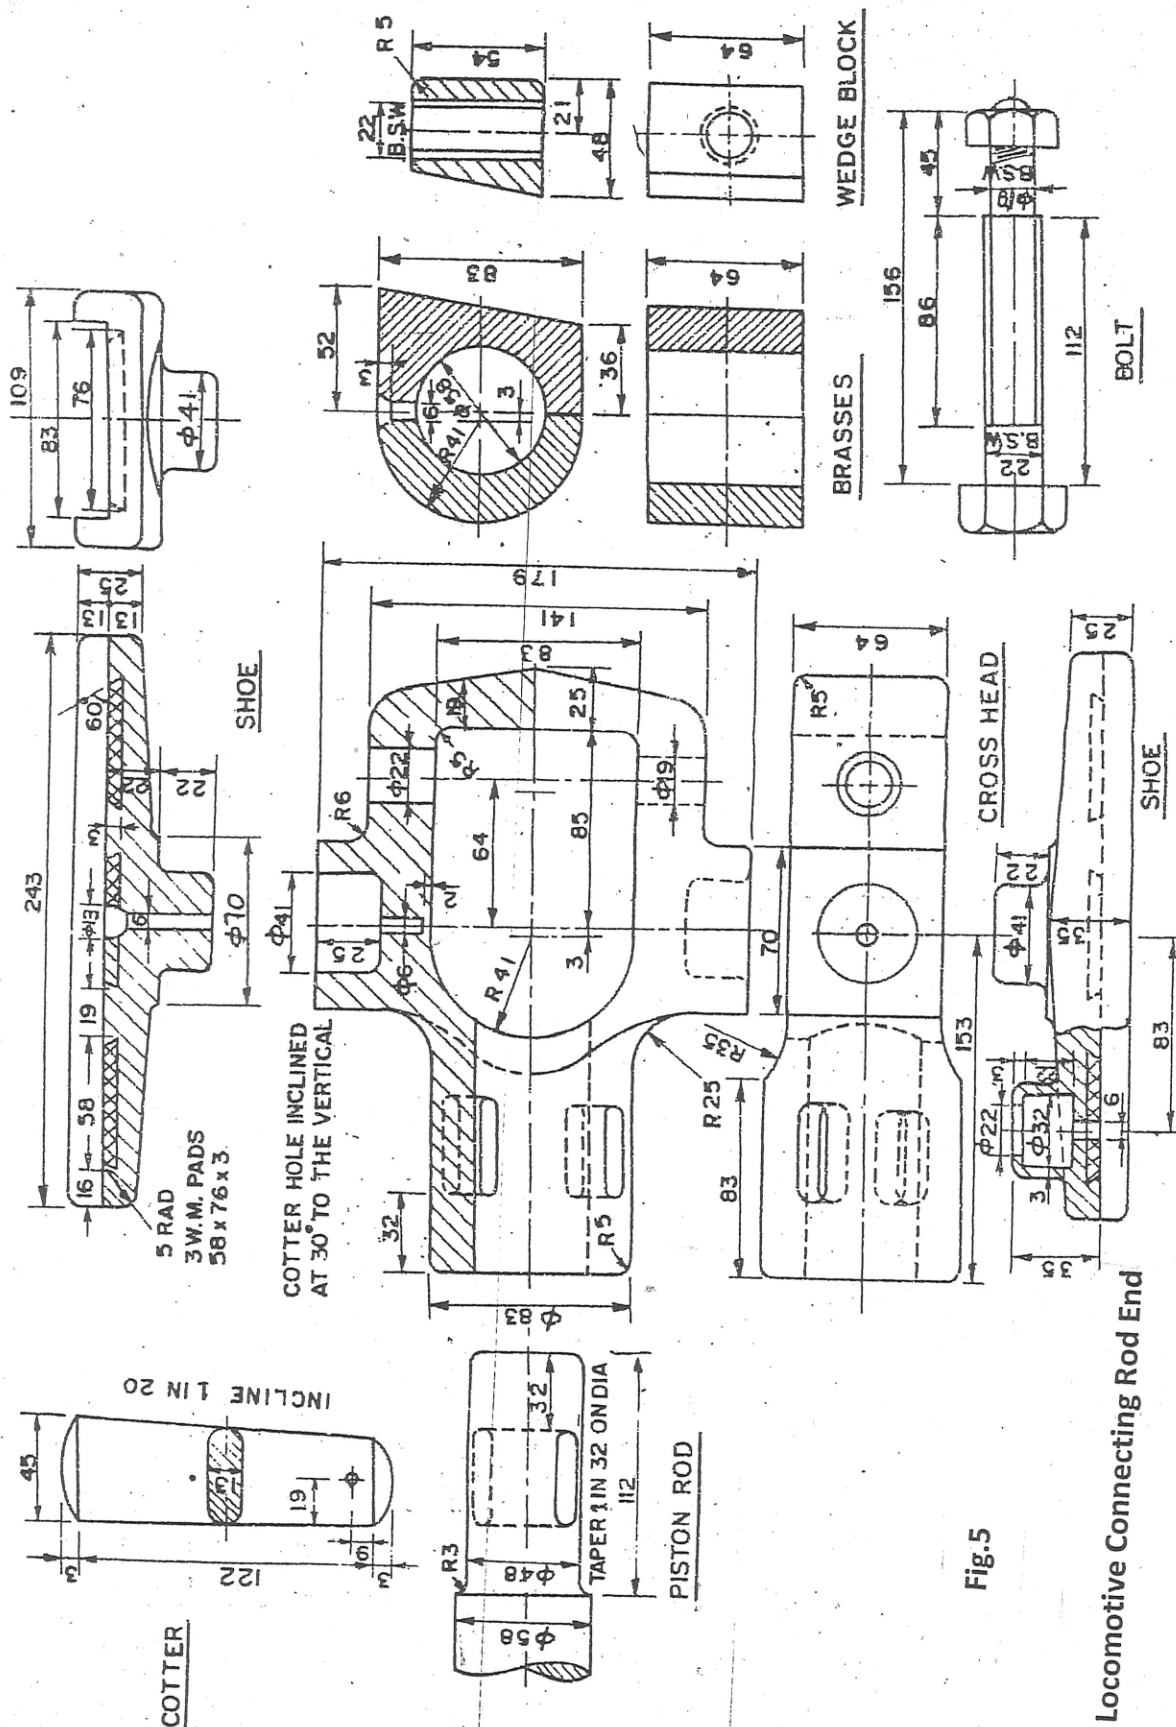

Fig.5
Q.6 Fig. 5 shows details of the Locomotive Connecting Rod End, assemble all the parts and draw the following views for the assembly:-